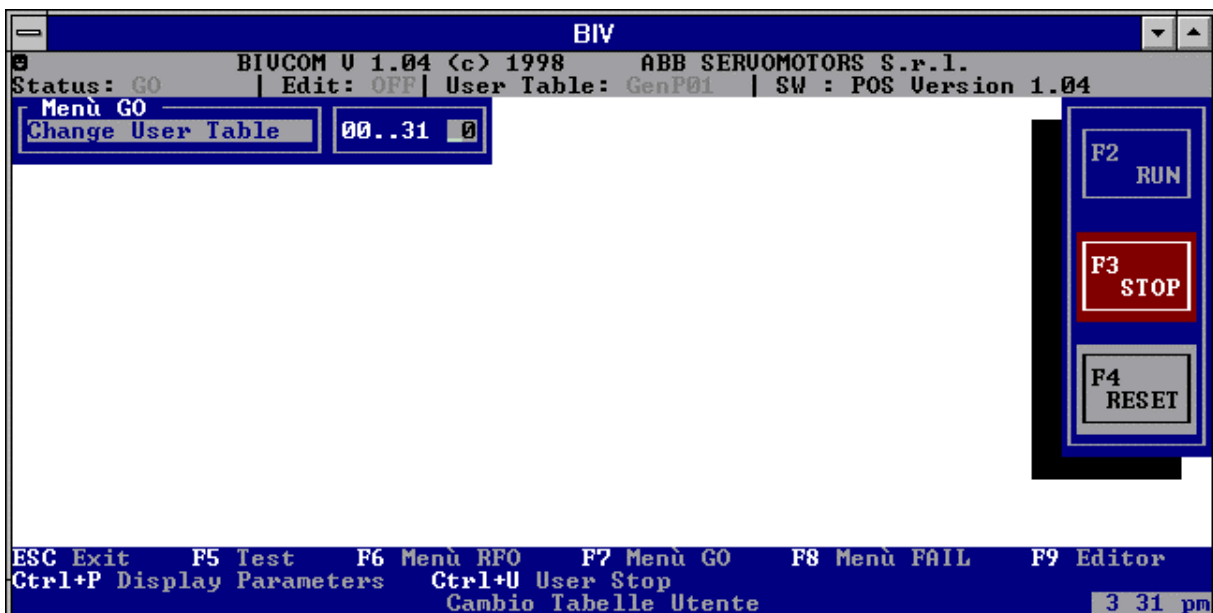

Fig. 7-5: GO Menu and User Table Change Command
- area C (see Fig. 7-5) displays: " GO menu" windows with only one possible choice, "Change User Table" (*on-the-fly user table change*) and a further window "00 - 31" which allows to choose between 32 general purpose user tables from # 0 to # 31. Type the number of the chosen table. By confirming this number, <CR>, the on-the-fly user table change command is activated.